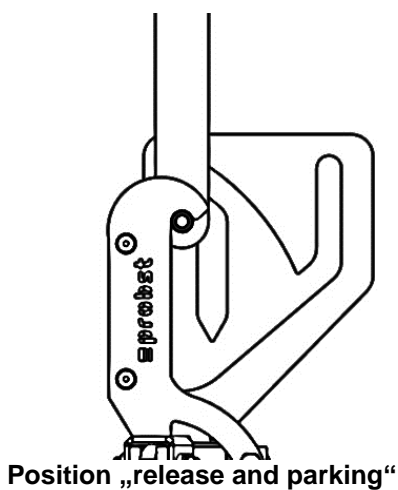

Fig. 1
- Move device lifting hook by diagonal pulling of load tie rod in position "release" (Fig. 1).